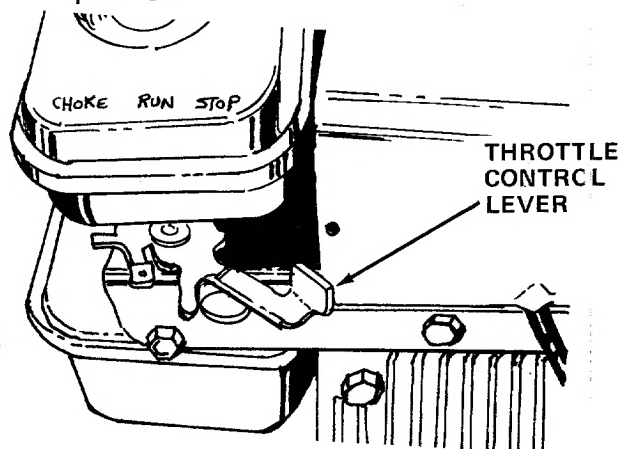

FIGURE 10
1. Place throttle control lever (on engine) in **CHCKE** position, towards the front of splitter. See figure 10.